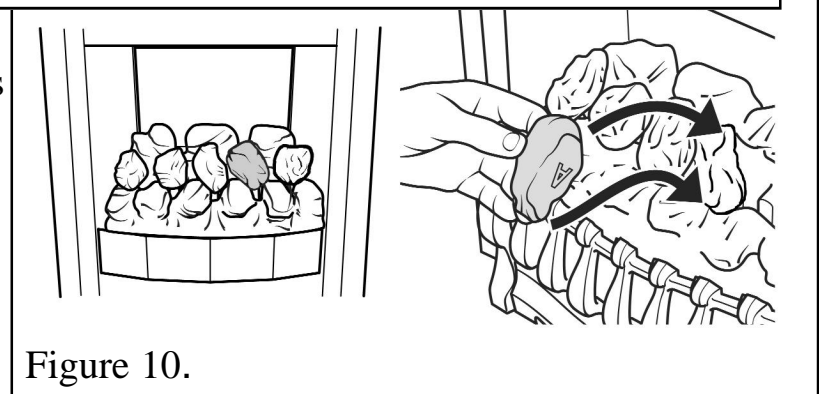

Figure 10.
7. Place the remaining type “A” coal between the front and rear base coals. The letter “A” should be upside down with its rear face between the right and centre coals of the rear base coal. Angle the coal so that the gap between it and the type “B” coal to its right is appreciably larger than the gap between it and the type “A” coal to its left but do not have it touching the type “A” coal. This will give the best flame effect. See figure 10.